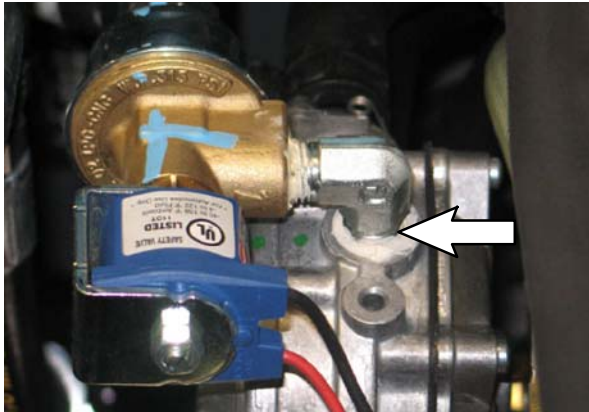

FIG. 18
18. Start and test the machine. Apply a soap / water mixture around the area where the lock off fitting is installed on the vaporizer and observe the connection for leaks. (Fig. 18)